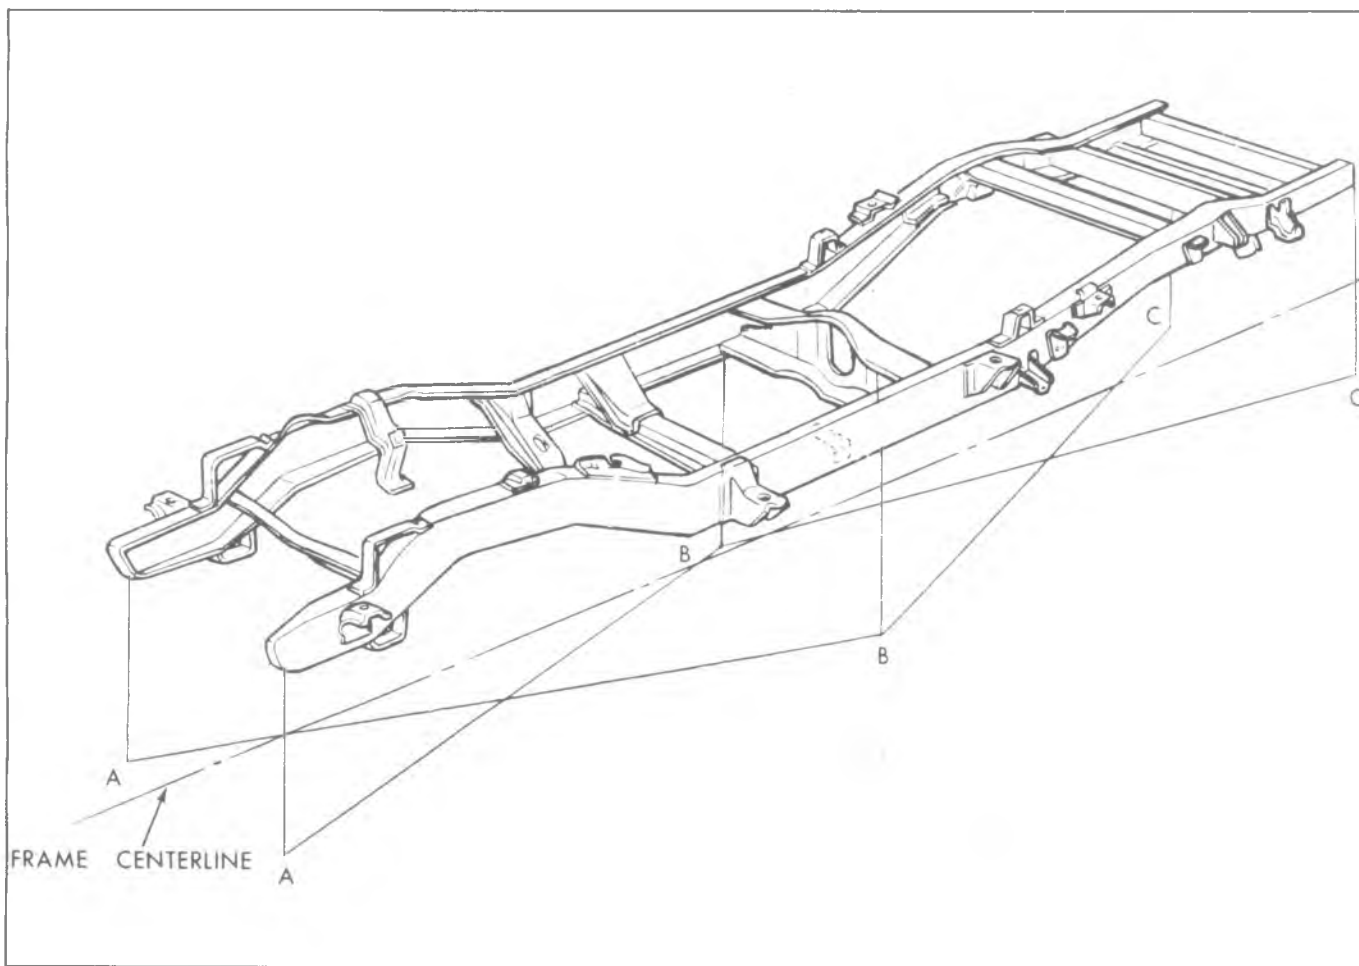

Fig. 2A-1--Frame Horizontal Checking--Typical
Horizontal frame checking can be made with tramming gages applied directly to the frame or by transferring selected points of measurement from the frame to the floor by means of a plum bob and using the floor layout for measuring. Figure 2A-2 or 2A-4 may be used as a general guide in the selection of checking points; however, selection of these points is arbitrary depending on accessibility and convenience. An important point to remember is that for each point selected on one side of the frame, a corresponding point on the opposite side of the frame must be used for vertical checks, opposite and alternate sides for horizontal checks.
Tramming Sequence (Fig. 2A-1)
3. If a tram bar is used, for horizontal alignment "X" - check from opposite and alternate reference points AA, BB and CC, as illustrated by the lines in Figure 2A-1. Error will result if a tram bar is not level and centered at the reference points.